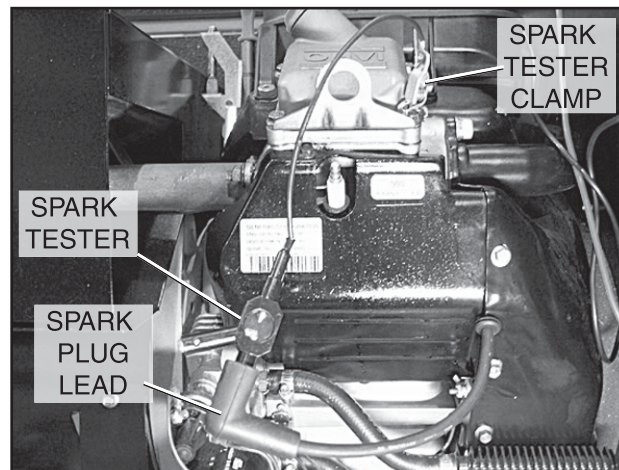

Figure 20. Checking Ignition Spark
1. Remove spark plug leads from the spark plugs (Figure 20).